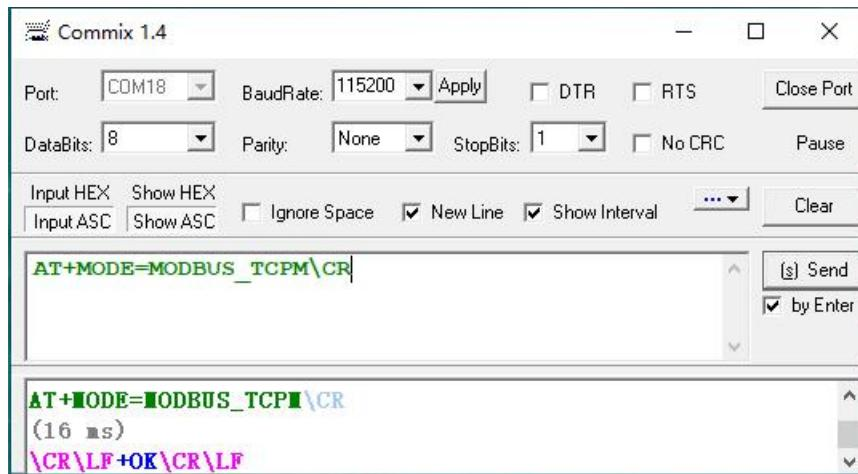

Figure 6-29 AT instruction for setting MODBUS \_ TCPS mode
- 1) Set the module to MODBUS \_ TCPM mode with port set to 5000. Both AT commands and web pages are available Take AT command setting as an example, as shown in Figure 6-29. For specific AT command mode entry operation, please refer to. AT Instruction Set Section.
- 2) As shown in Figure 6-29, the receipt of "+ OK" indicates that the module has finished setting the MODBUS \_ TCPS mode. Then exit AT Command mode, the program automatically returns to passthrough mode.